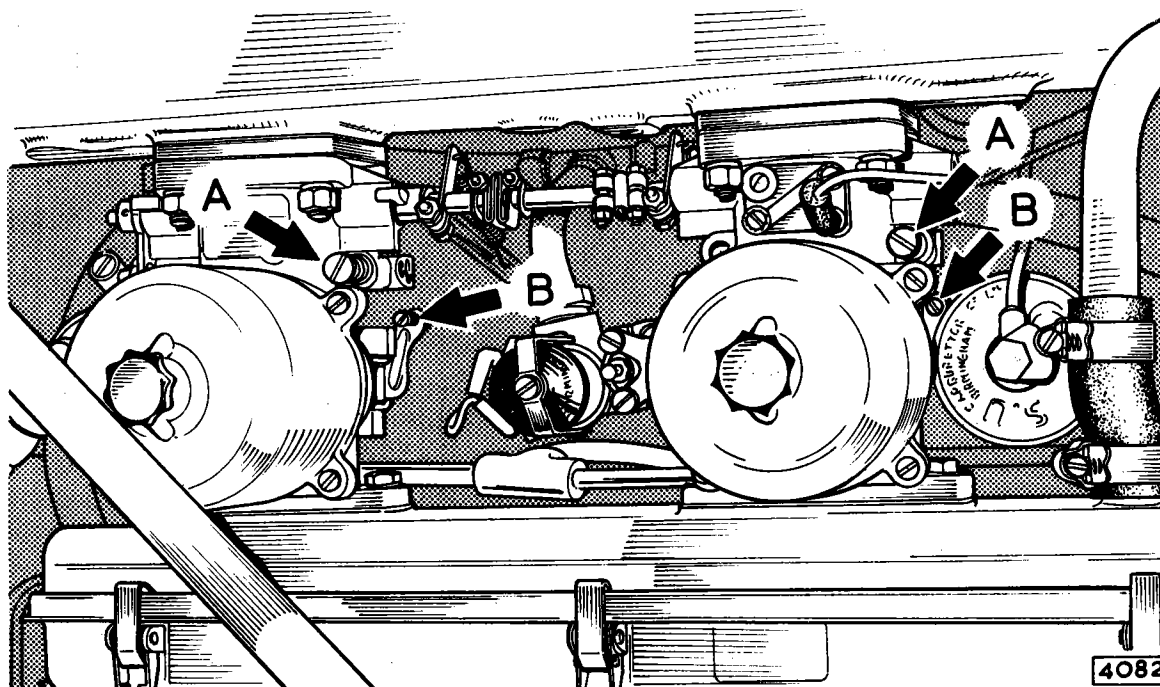

Fig. 6 Carburettor tuning—"A"—Slow running screw, "B"—Mixture adjusting screw
Only two adjustments are provided at the carburettors: (i) The slow running volume screw (A) (Fig. 6) governing idling speed, and (ii) the mixing adjusting screws (B) governing mixture strength. Correct setting of the mixture strength at idling speed ensures that the carburettors are correctly adjusted throughout their entire range.